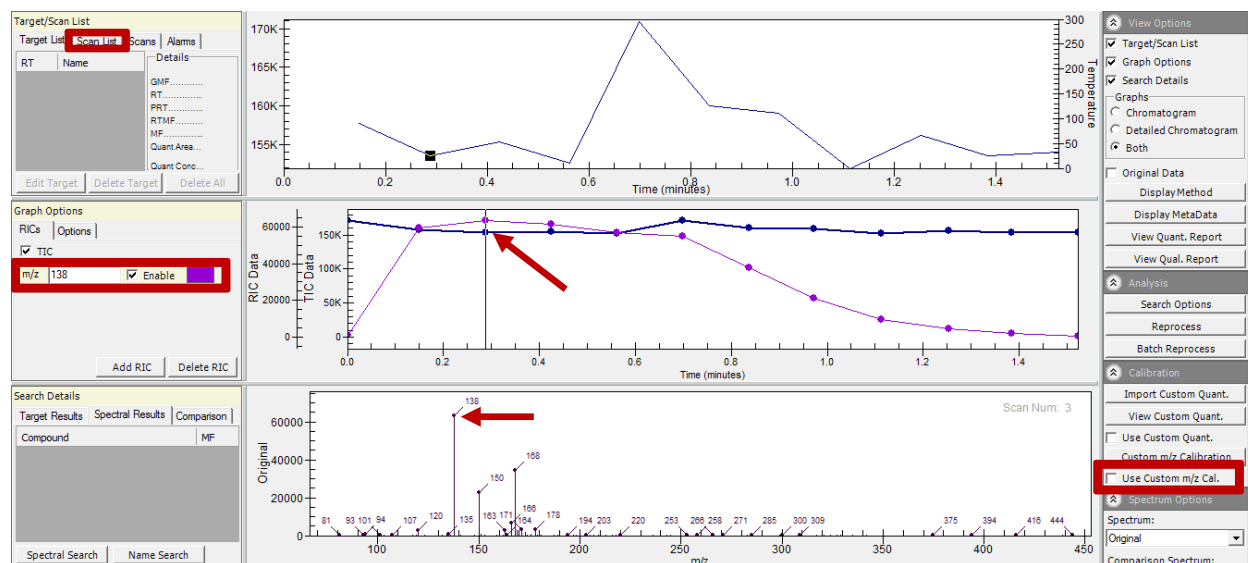

Figure 4.15 – Data file from frequency macro experiment
- After the Frequency macro has finished, the data can be accessed by following the file path specified in Step 5. Opening the data file displays the chromatogram and resulting mass spectra generated during each change of frequency settings. Under “RICs”, enter the m/z of the highest intensity fragment from typical MS/MS spectra for this compound, and check the “Use Custom m/z Cal” box. The intensity of the fragment should now be able to be monitored over the entire chromatogram as specified by a differing color (Figure 4.15).
8. Determine the point in the chromatogram that results in the highest fragment intensity for the peak specified in step 7. The frequency at this point can be determined by clicking the “Scan List” tab and finding the specific scan number that correlates to the point of interest in the chromatogram in the list. Hovering the cursor over the corresponding “scan number” will result in the frequency being shown in a pop-up window (Figure 4.15). Record this frequency value.